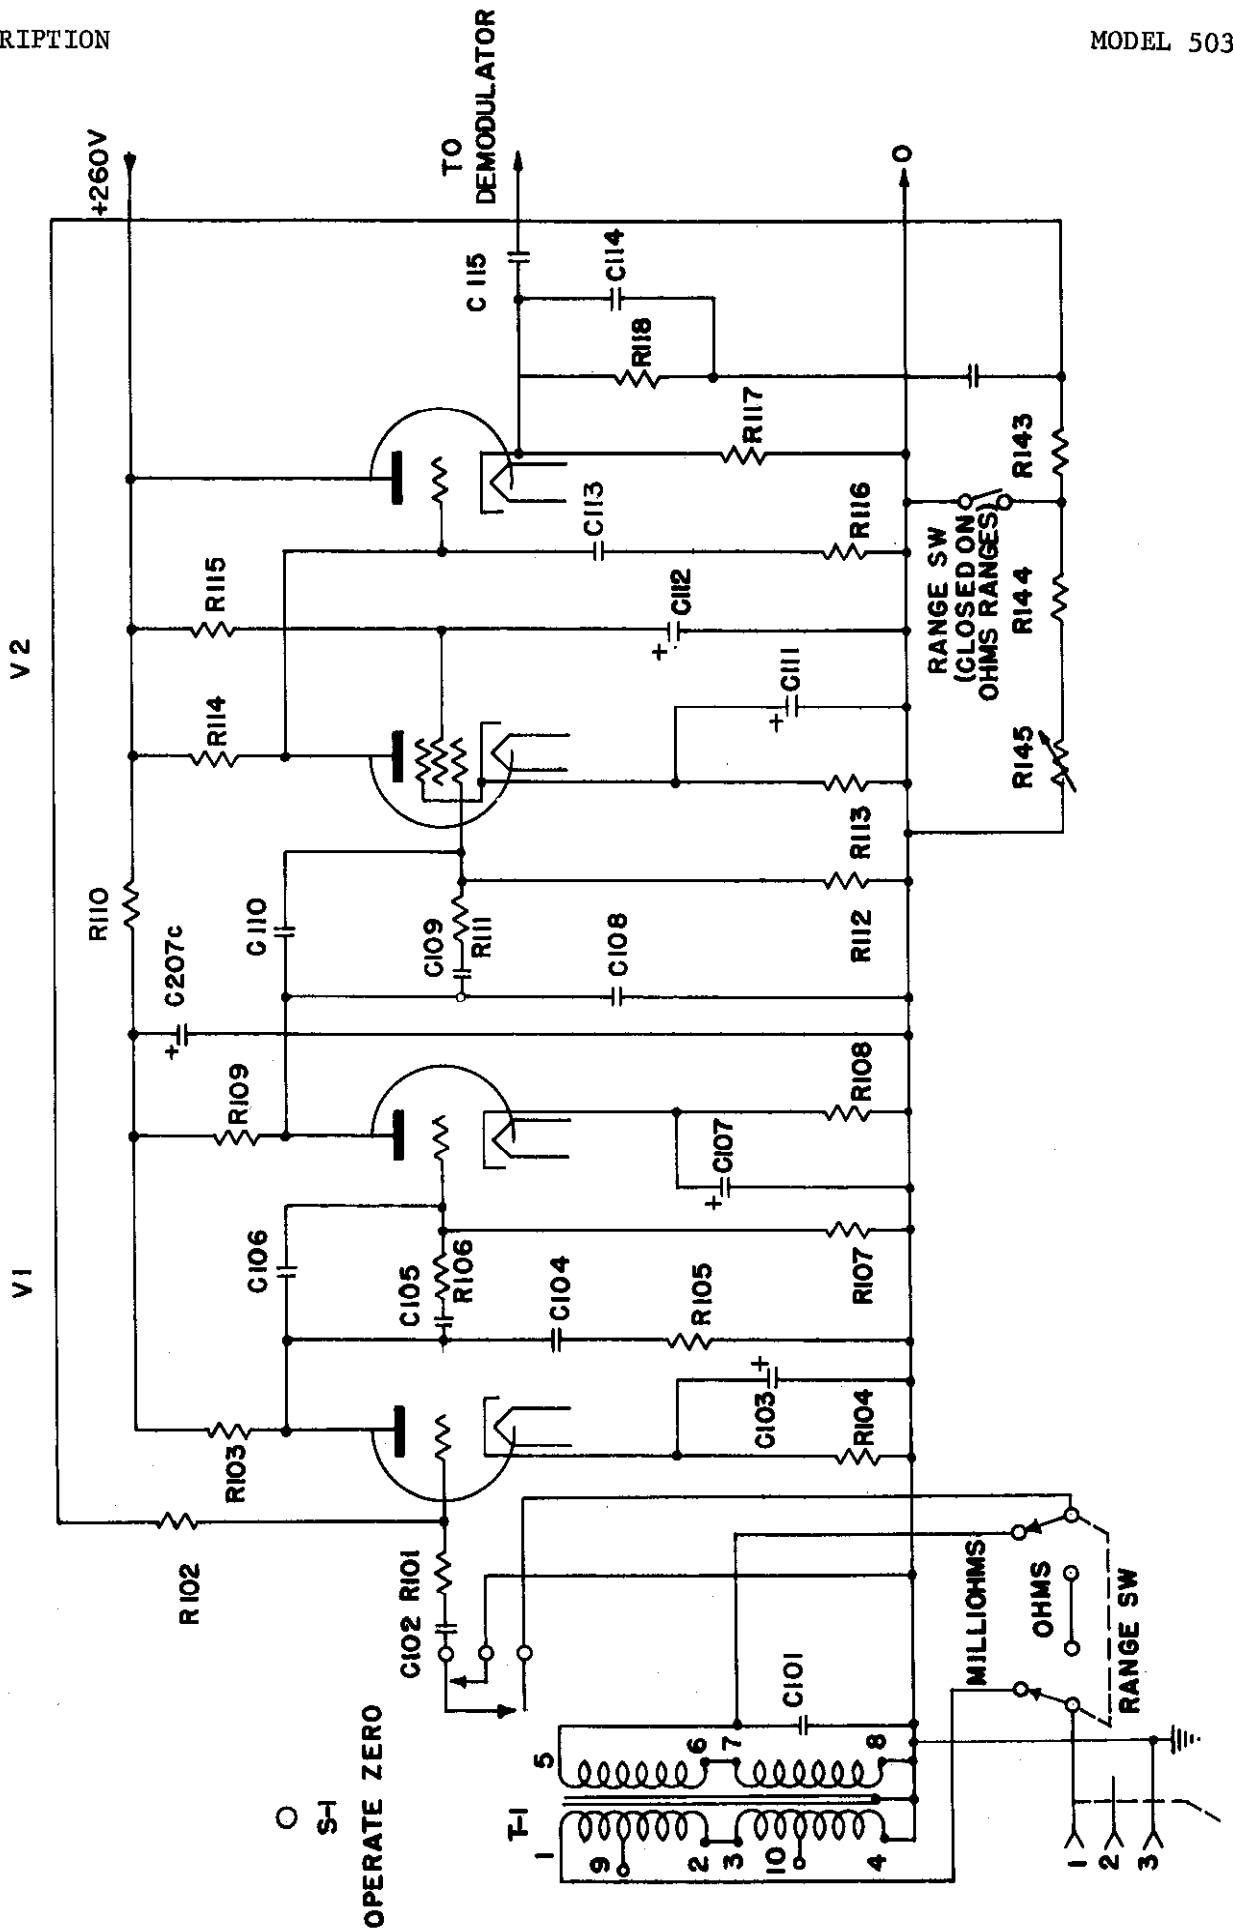

Figure 11. AC Amplifier Schematic Diagram
3-3. THE AC VACUUM-TUBE VOLTMETER: (Fig. 11) On the Milliohm Ranges the input signal passes through transformer T-1. This transformer has approximately a 70:1 step-up ratio and improves the impedance match between the voltage signal and the input grid by a factor of 5000:1. On the ohm ranges, where a larger signal is obtainable, the transformer is switched out so that its input impedance will not shunt the resistance being measured. Accordingly, on the Milliohm ranges, the input resistance is about 200 ohms. On the Ohms ranges, the input resistance is one megohm.
3. THE AC VACUUM TUBE VOLTMETER. (Figure 11): Be sure both vacuum tube filaments are heated and the pilot lamp is lit. Since the pilot lamp is in parallel with the filament of V1 and the combination is in series with the filament of V2 across the 12 volt regulator, some service information is provided by its brilliance. If it lights normally, it may be assumed the supply is working properly. If it is brighter than normal, V1 is probably burned out. If the lamp is not lit, either V2 is burned out, or the pilot itself is open. The instrument will operate without the pilot lamp, but since the life of V1 will be reduced, it should be replaced.